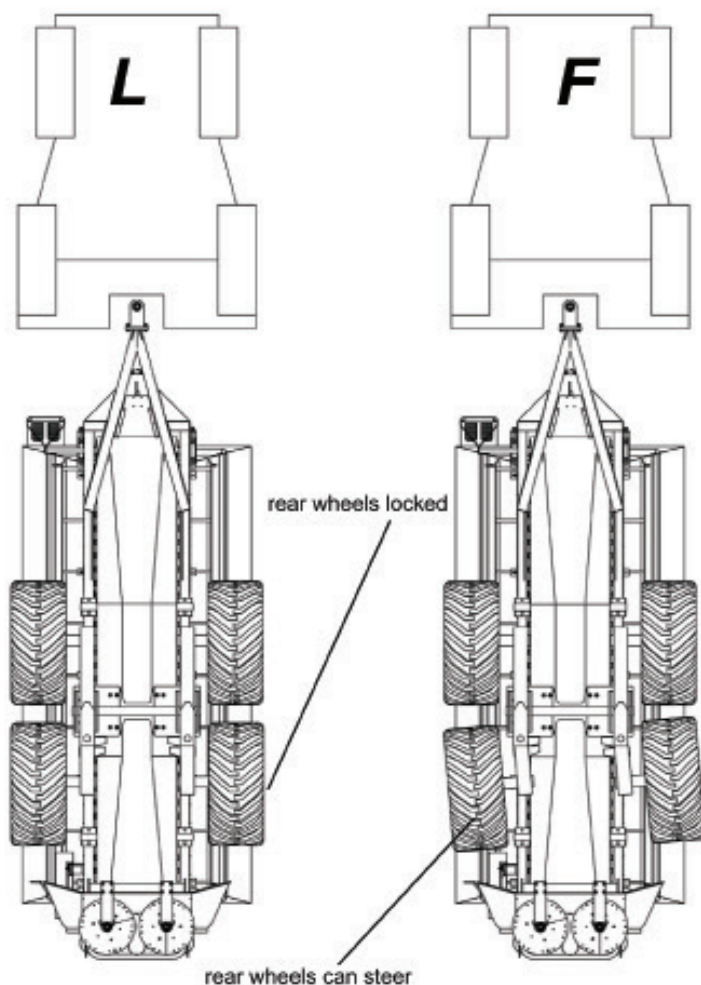

Fig 5
3. When the spinners are running at 900RPM with the tractor at full throttle, the tractor engine speed should be lowered to where the spinners drop below 700RPM. At this point make note of this lower tractor engine speed, as you can work from this engine speed up to full throttle without altering the spinners RPM. See fig 5 below.
The rear set of tyres must be locked straight when the spreader is reversed. Hydraulic cylinders located on the rear axles lock the rear tyres in a straight position to allow safe reversing.(see position in fig 5 below). It is also recommended to have the rear wheels in position L when travelling over 25 km/h for extended periods.
Locking wheels Straight (Position L). see Fig 5
Steering Mode ( Position F) see Fig 5